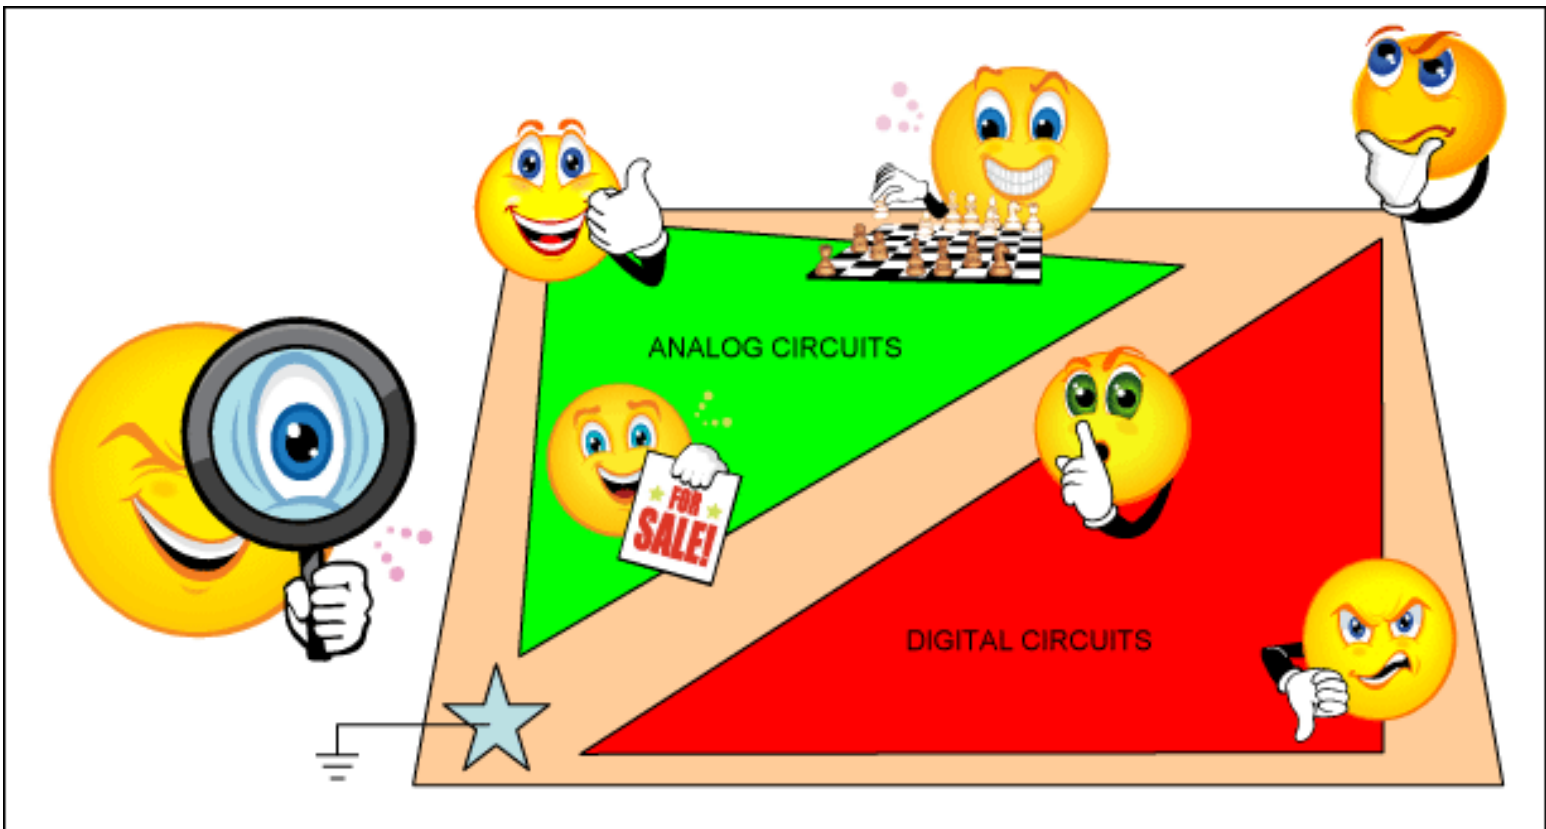
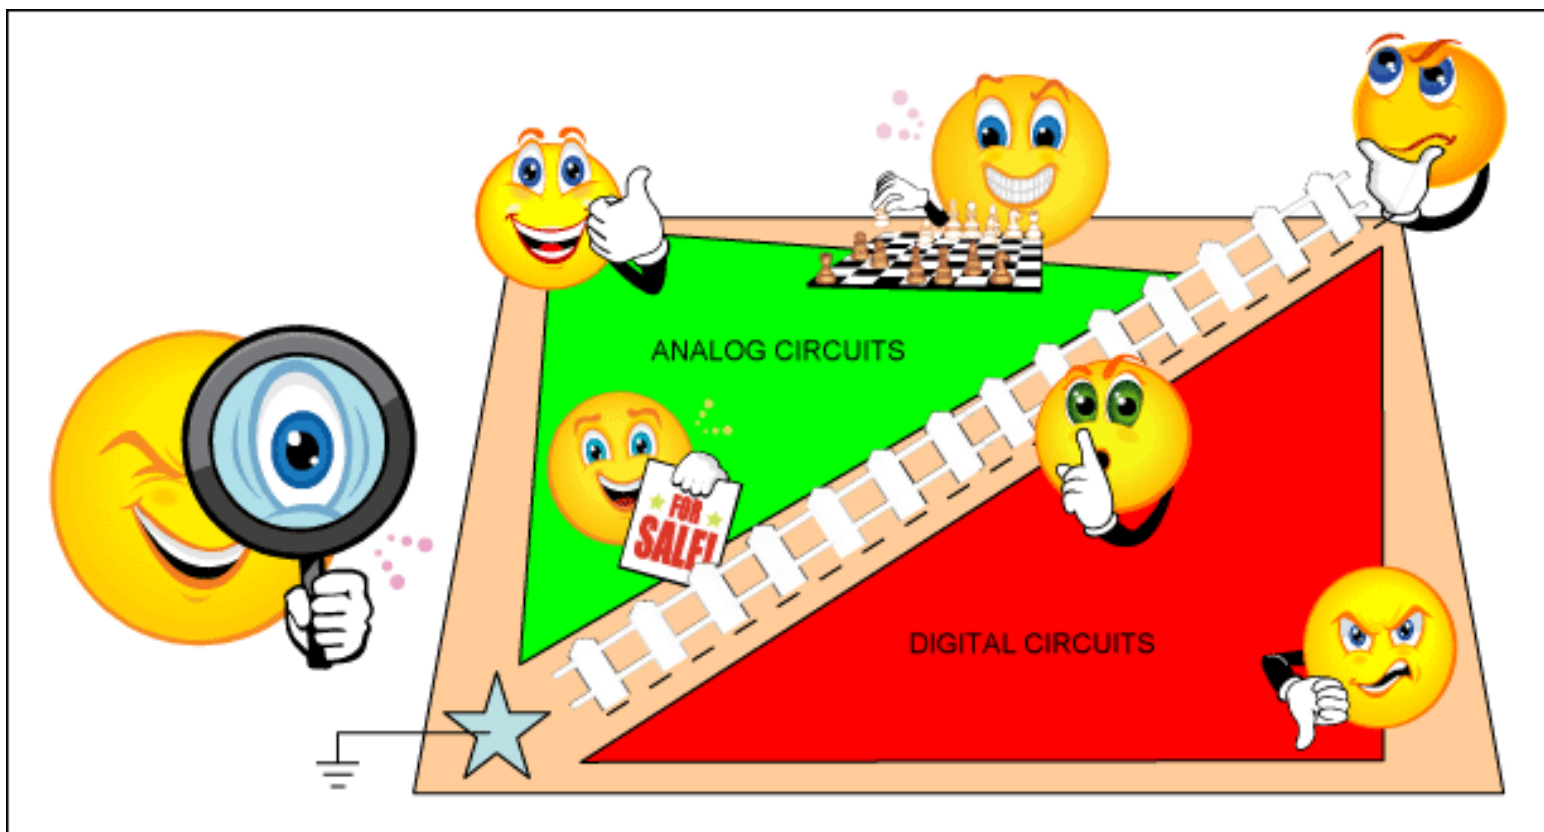

Figure 5a. Electrons abound without clear guidelines.
Figure 6a. A fence is intended to corral the electrons (signals).
**Figure 5a** imagines the electrons playing on the ground plane. A close look reveals the "good guys" (the returning signal currents) in the upper left and "bad guys" at the lower right. Some electrons know their place and keep to it. Some are confused, and others can be bought (or co-opted) by the highest bidder or most persuasive force.
In both Figures 5a and 5b the ground areas are labeled as analog and digital. While one hopes that the signals stay in their regions, nothing keeps them separate. So in **Figure 6a** we have erected a fence.
In Figure 6a the digital and analog circuits must be protected from each other as well as from the arcing and sparking motor. Two fences do the duty with connections again only near the ground star point.